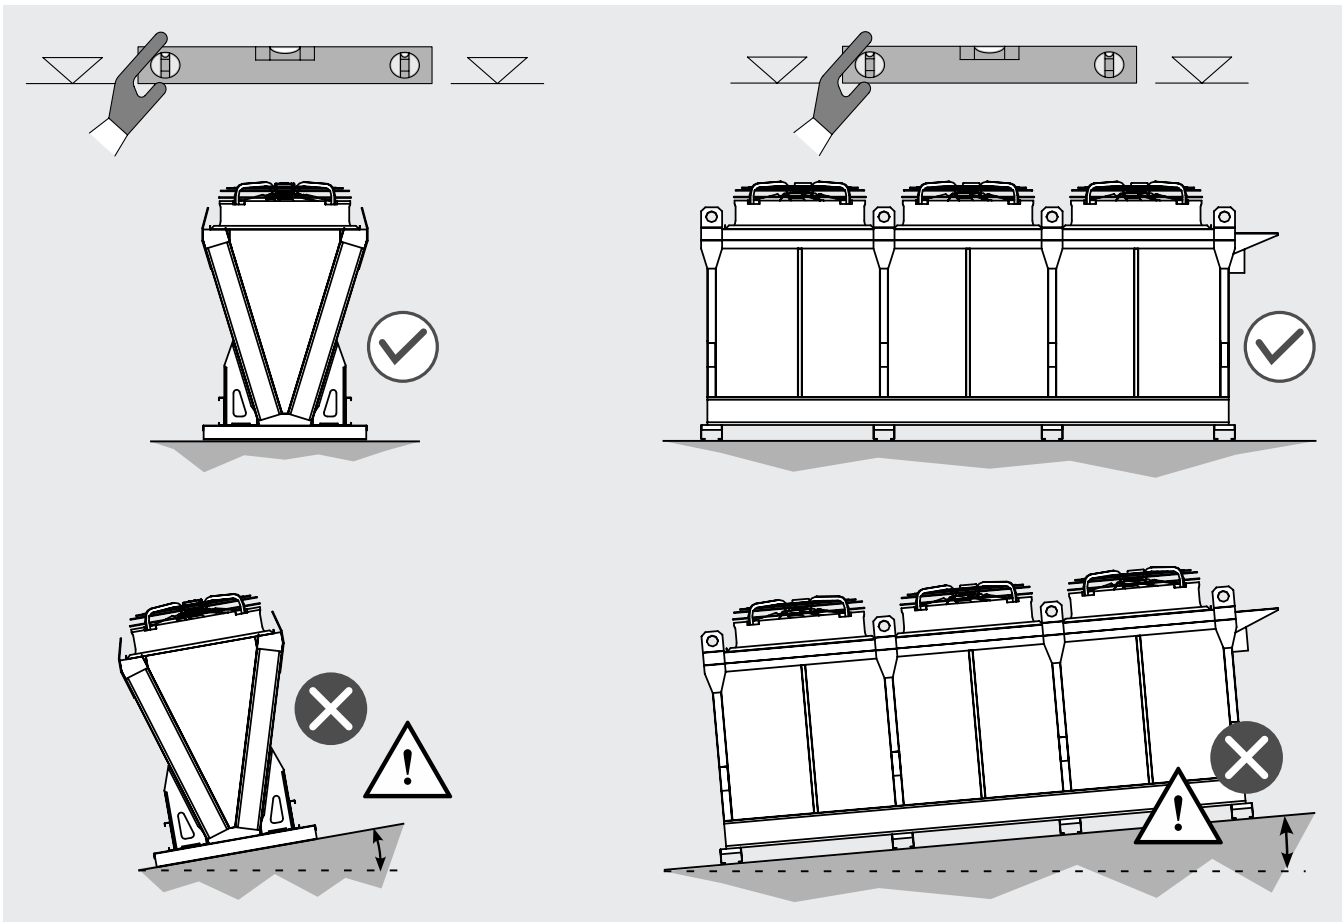

Figure 3
- 4.2 Ensure that the installation surface (on a platform or other supporting structure) is perfectly horizontal and flat, free of unevenness and dimensioned to support the weight of the model. For dimensions and weights, please refer to the manual and documentation enclosed with the model. See Figure 3.